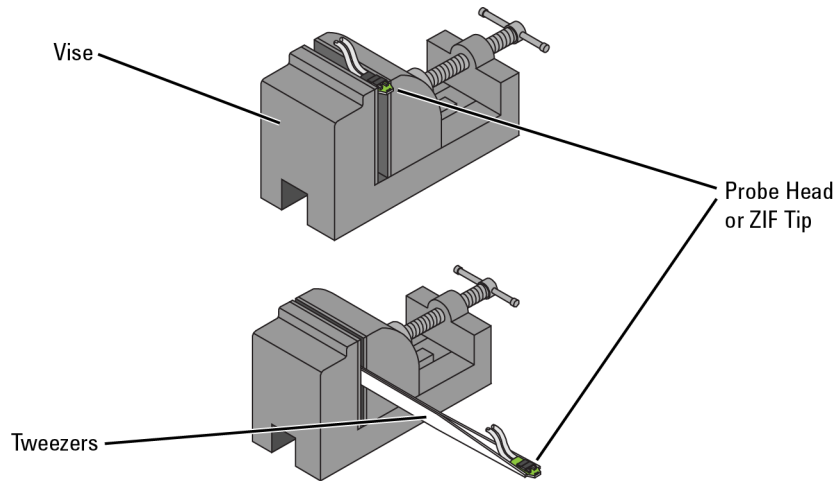

Figure 63 Clamping the Part
- 1 As shown in **Figure 63**, clamp the probe head or ZIF tip in a vise. Tweezers can be used to hold the probe head or ZIF tip away from the vise. When using tweezers, grip the tip either on the sides or top and bottom.